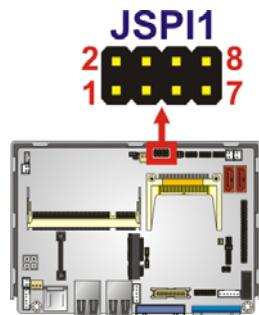

Figure 3-21: SPI Flash Connector Location
**CN Location:** See Figure 3-21